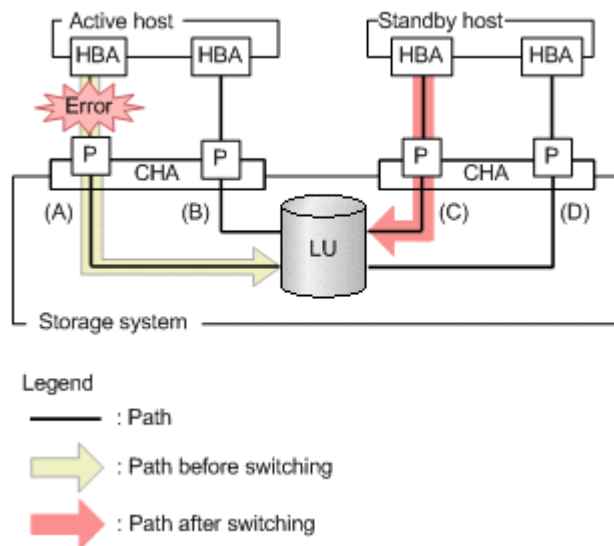

Figure 2-18 Path Switching in a Cluster Configuration
For example, in Figure 2-18 Path Switching in a Cluster Configuration on page 2-49, when HDLM uses a path (A) from the active host to access a device within the LU, if the path is placed offline, HDLM switches to another path (B) to continue processing.